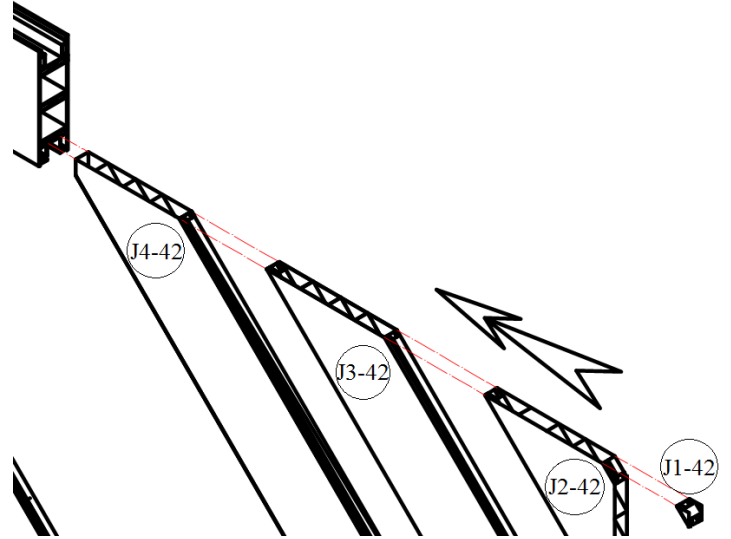

Figure 6B
Finally, insert the remaining J4-42 panel, J3-42 panel, J2-42 panel and J1-42 into the open space between installed J-42 panel and Rail (C) at upper portion of door. Make sure that the open edge with cut-off corner of J4-42 panel shall be slide into the groove of Rail (C) and also that the groove of the J4-42 panel shall face downward in order to catch the upward tongue of J-42 panel. Same process shall be used on applying J3-42 panel to J4-42 panel and J2-42 panel to J3-42 panel as well as J1-42 panel to J2-42 panel to fill up that open space. See **Figure 6B & 6C**.